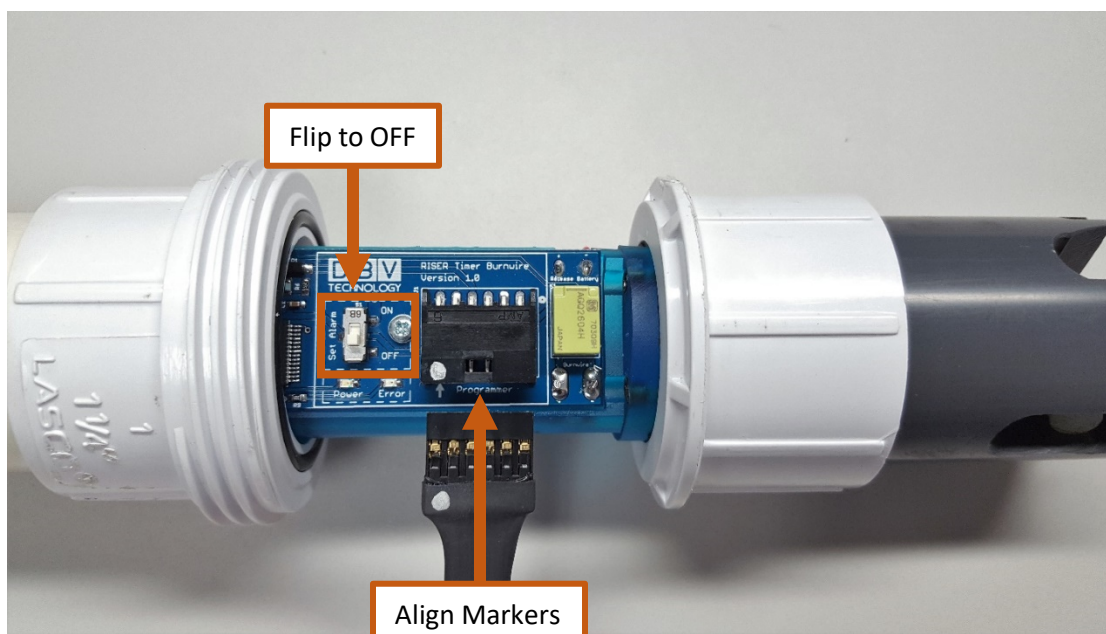

Figure 3
3. For programming, make sure that the “Set Alarm” switch on the PCB is in the “OFF” position. See Figure 3.
4. With the programming cable disconnected from the tablet, insert the programming cable so that the silver dots on the connector and header are aligned. Doing this without the tablet attached insures the electronics will not be damaged if the connector were to be inserted upside-down. See Figure 3.